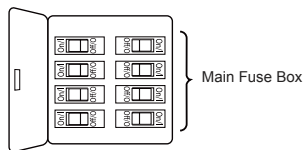
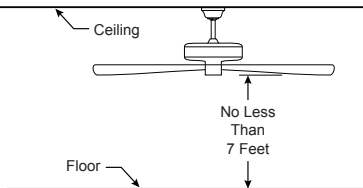
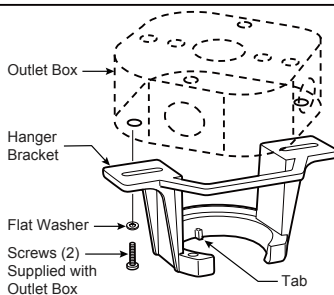

Figure 1
Figure 2
Figure 3
Your new ceiling fan will require a grounded electrical supply line of 120 volts AC, 60 HZ, 15 Amp Circuit. Electrical code requires use of a fan-rated outlet box to support the extra weight and motion associated with a ceiling fan. A fan-rated box will be labeled as such and typically supports up to a 70lb ceiling fan. Fan-Rated Outlet Boxes vary in ratings and design. Ensure the ratings of your ceiling fan outlet box meet the requirements for the ceiling fan being installed. Figure 1, Figure 2 and Figure 3 depicts different structural configurations that may be used for mounting the outlet box.
Low profile box (Figure 1)
Deep box (Figure 2)
Deep box with brace (Figure 3)
- ☐ 1. Remove and discard the three rubber/screws motor stops from the motor assembly. (Figure 1)
- ☐ 2. Remove the hanger ball portion from the downrod/hanger ball assembly by loosening the set screw in the hanger ball until the ball falls freely down the downrod. Remove the pin from the downrod, then remove the hanger ball. Retain the pin and hanger ball for reinstallation in Step 7. (Figure 2)
- ☐ 3. Remove the hairpin clip and clevis pin from the bottom of the downrod. Retain the pin and clip for reinstallation in Step 5. (Figure 3)
- ☐ 1. Secure the three blades using the 1/4"-20 pan head screws with lock washer and blade plates from the hardware bag. Then through the holes located on the bottom of the motor assembly. (Figure 1)
To avoid possible fire or shock, be sure electricity is turned off at the main fuse box before hanging. (Figure 1)
The fan must be hung with at least 7' of clearance from floor to blades. (Figure 2)
- ☐ 1. Securely attach the hanger bracket to the outlet box (not included) using the outlet box screws and washers supplied with the outlet box. (Figure 3)
1. To set the code on receiver unit, slide dip switches to the same positions as set on the remote control. (Figure 1)
To avoid possible electrical shock, be sure electricity is turned off at the main fuse box before wiring. (Figure 2)
2. Slide the receiver into the hanger bracket before wiring as shown in figure 3.
- ☐ 1. Assemble canopy by rotating key slot in canopy over shoulder screw in hanger bracket, taking care not to pinch the wires. Tighten shoulder screw. Fully assemble and tighten second shoulder screw that was previously removed. (Figure 1)
- ☐ 2. Securely attach and tighten the canopy screw cover over the shoulder screws in the hanger bracket utilizing the key slot twist-lock feature. (Figure 2)
- ☐ 1. Connect the 2 pin connectors from the light kit assembly to the 2 pin connectors from the motor assembly. (Figure 1)
- ☐ 2. Secure the light kit assembly to the motor assembly by twisting in a clockwise direction. (Figure 2)
- ☐ 1. IMPORTANT: Using a full range dimmer switch (not included) to control fan speed will damage the fan. To reduce the risk of fire or electrical shock, do not use a full range dimmer switch to control the fan speed. (Figure 1)
- ☐ 2. Restore electrical power to the outlet box by turning the electricity on at the main fuse box. (Figure 2)
- ☐ 3. Remove the battery cover from remote control by screwdriver and retain the screw for later. (Figure 3)